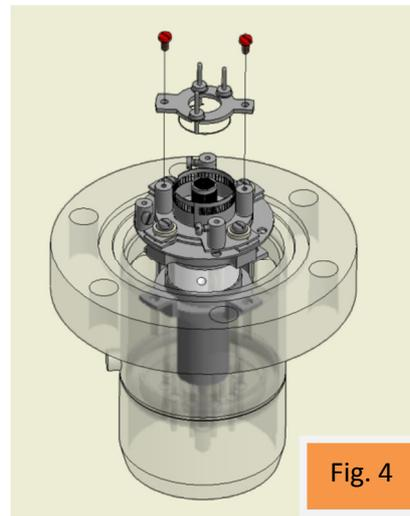

Fig. 4
5. Remove the filament plate assembly. Carry out this step carefully so as not to damage the filaments or source cage, see Fig.4.